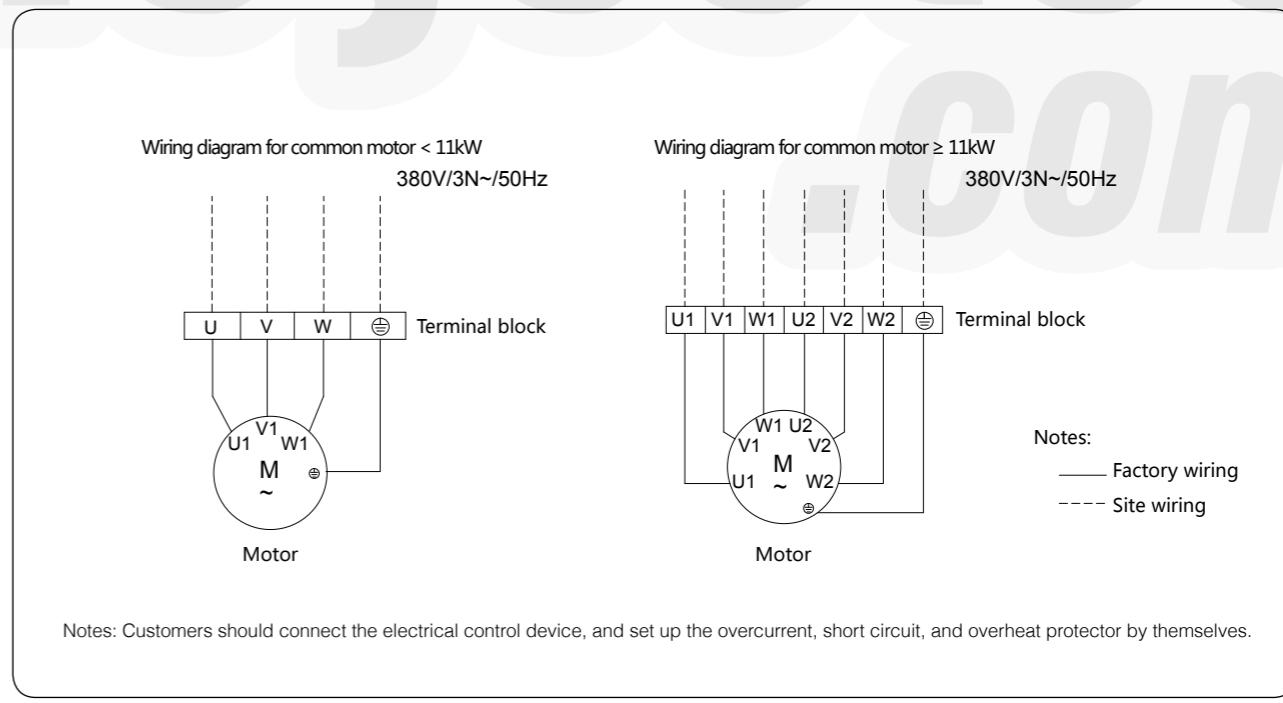

Fig 2 Electrical wiring diagram
- The electrical wiring diagram for the unit is shown in Fig 2.